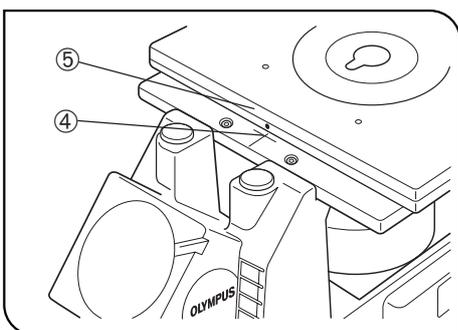

Fig. 91
3. Align the stage's center alignment index line ④ with the edge ⑤ of the upper stage. (Fig. 91)